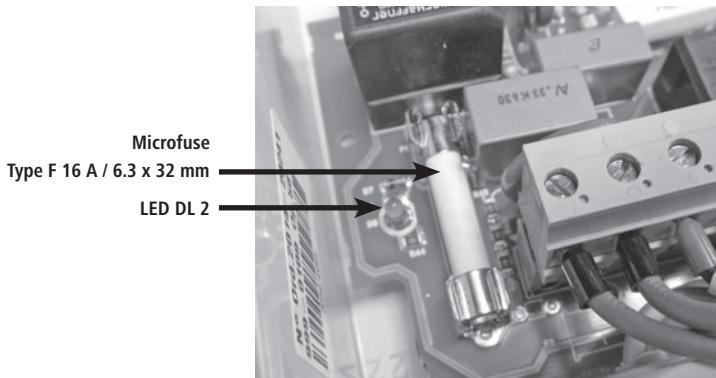

Figure 8: Changing the fuse for “Uno”
The cycle time is set at the factory to 60 seconds. If necessary, this can be adjusted using the red dip switch element on the display card (item 2, Fig. 8) from 7.5 - 120 sec. (Table inside the control box). Once the machine has been restarted (connected to the power supply), the changes will take effect and will be briefly shown on the display.